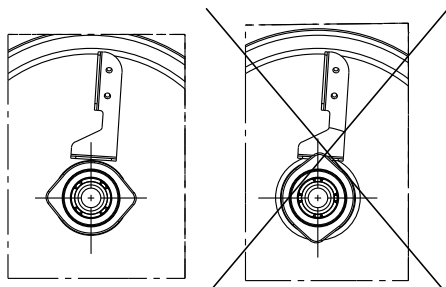

Fig. 24 Fitting the stationary shaft seal part (only SiC/SiC)
3. Press the stationary shaft seal part home. See fig. 24.